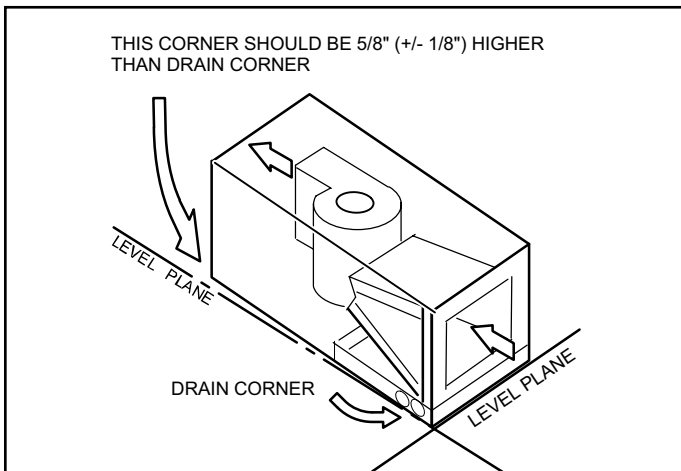

Figure 13. Sloping the Unit for Proper Drainage
- Set unit so that it is sloped toward the upflow drain pan end of the unit and level from front to back of unit (see Figure 13).
Make sure the unit is sloped (similar to the slope shown in Figure 13) so that the drain pan will empty completely without water standing in the pan.